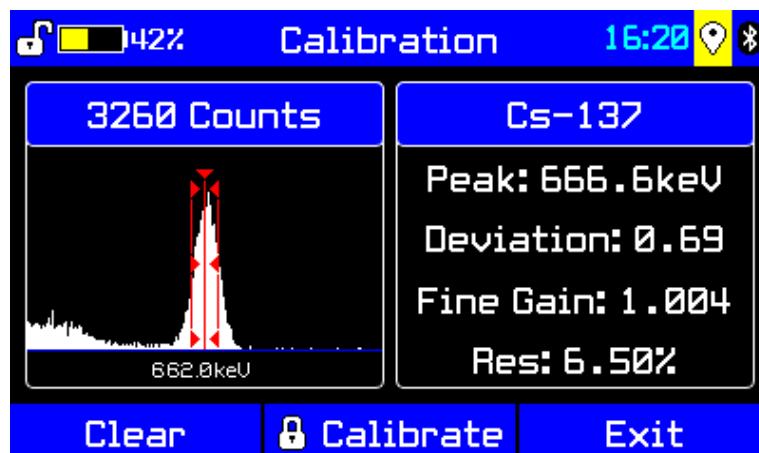

Figure 6-55: Calibration parameters calculated
- Wait for the R425 to allow sufficient counts to accumulate to ensure a good centroid calculation for a calibration adjustment (if needed). As the region of interest in the left pane becomes filled and the peak has enough counting statistics, the peak centroid, deviation, fine gain, and resolution will display in the right pane and the **Calibrate** button will enable (Figure 6-55). For more information on the calculations displayed, see
5. In Figure 6-55, we can see that the peak position has shifted by 4.6 keV from the desired location of 662 keV. To make the adjustment, select **Calibrate** and enter the password at the prompt.